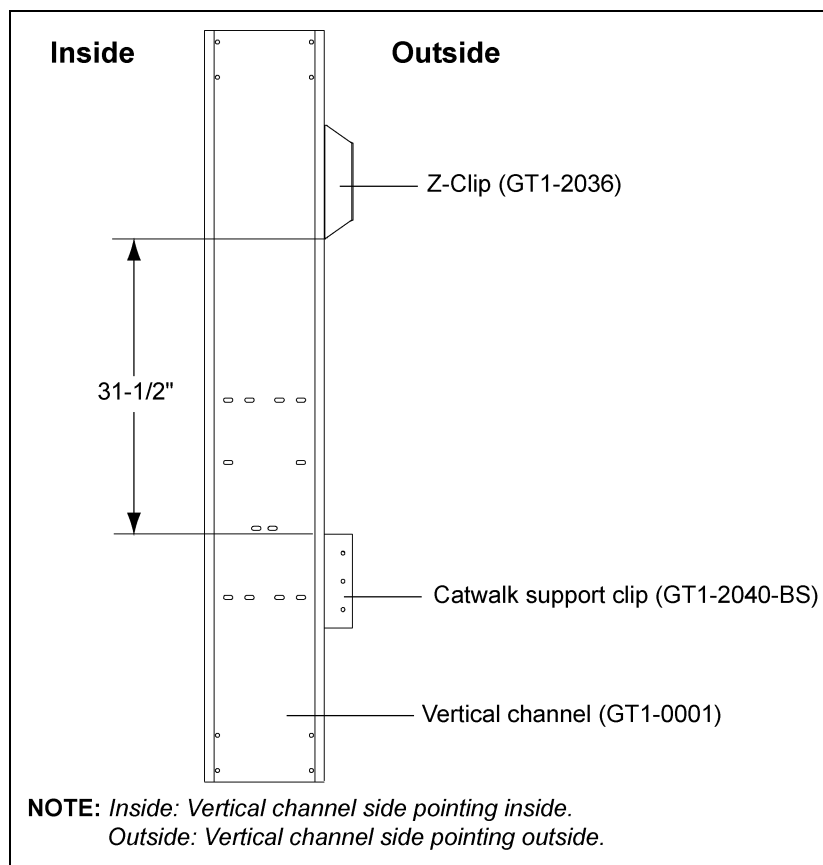

**Figure 6H**
2. The distance between the Z-clip and support clip 12' offset and roof hatch platform is 31-1/2". *(See Figure 6H below and Figure 6J on Page 44.)*